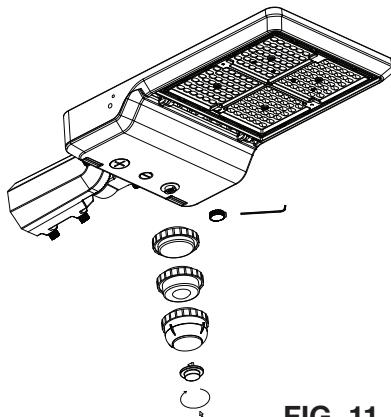

FIG. 11
3. Plug the c-Max™ control node into the USB-C receptacle (see **Fig. 11**).